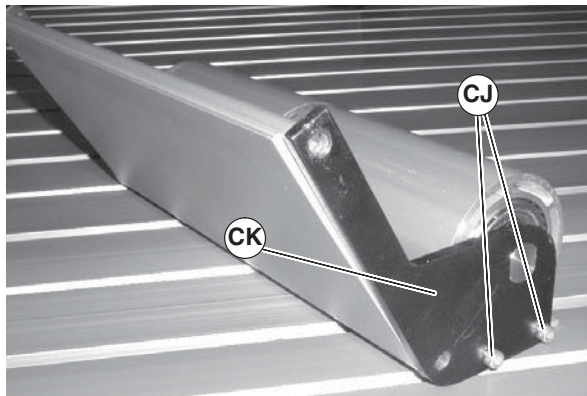

Figure 71
4. Remove screws (Figure 71, item CJ) and idler guide side plate (CK).